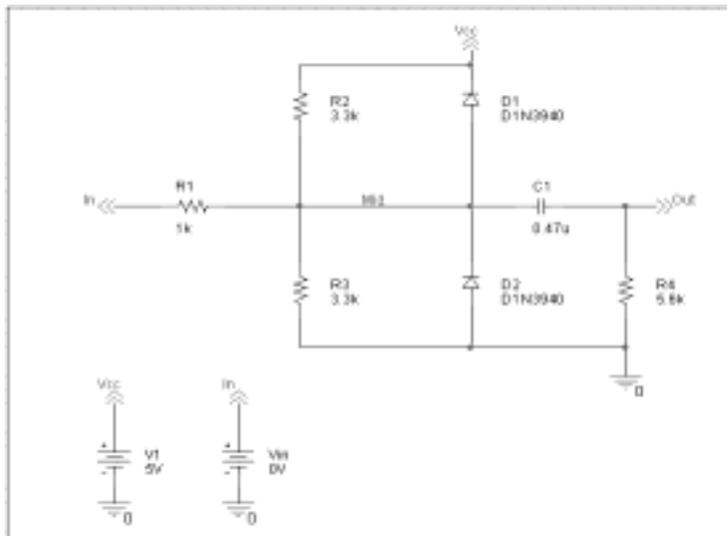

Figure 2 *Diode clipper circuit.*
This section describes how to use OrCAD Capture to create the simple diode clipper circuit shown in Figure 2.
- 6 Move the pointer to the correct position on the schematic page (see Figure 2) and click to place the first part.
- You will change part names and values that do not match those shown in Figure 2 later in this section.
- 3 Follow similar steps as described for the diodes to place the parts listed below, according to Figure 2. The part names you need to type in the Part name text box of the Place Part dialog box are shown in parentheses:
- resistors (R)
- capacitor (C)
- 6 Place the off-page connector parts according to Figure 2.
- 7 To place the ground parts (0), click the GND button on the tool palette.
- Place the '0' ground part from SOURCE .OLB as shown in Figure 2.
- Continue connecting parts until the circuit is wired as shown in Figure 2 on page 54.
Label the off-page connectors as shown in Figure 2 on page 54.
- 5 Continue naming the remaining parts until your schematic looks like Figure 2 on page 54.
- 4 Continue changing the Part Value properties of the parts until all the parts are defined as in Figure 2 on page 54.
Your schematic page should now have the same parts, wiring, labels, and properties as Figure 2 on page 54.